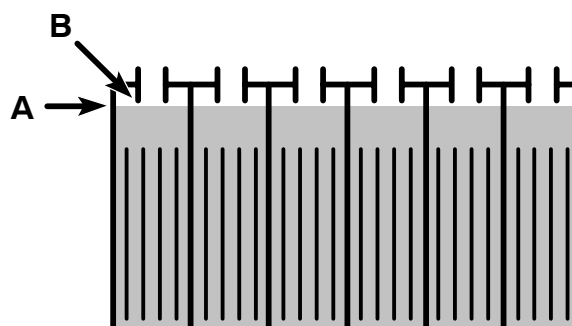

FIG. 43
3. Check the electrolyte level (A) in each battery cell **after charging batteries**. The level should be approximately 1 cm (3/8”) from the bottom of the fill-port (B). Add distilled water if needed (Figure 43). **DO NOT OVERFILL.**